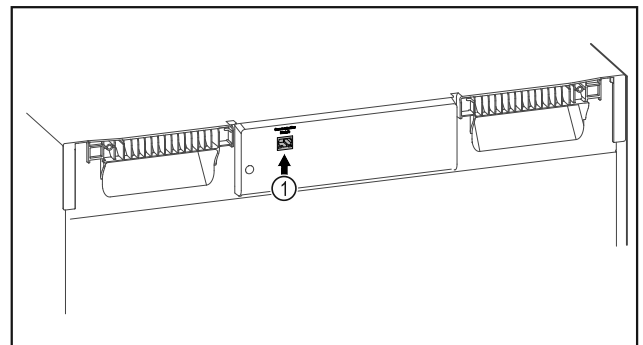

Fig. 108
- SmartModule Fig. 108 (1) is in use.